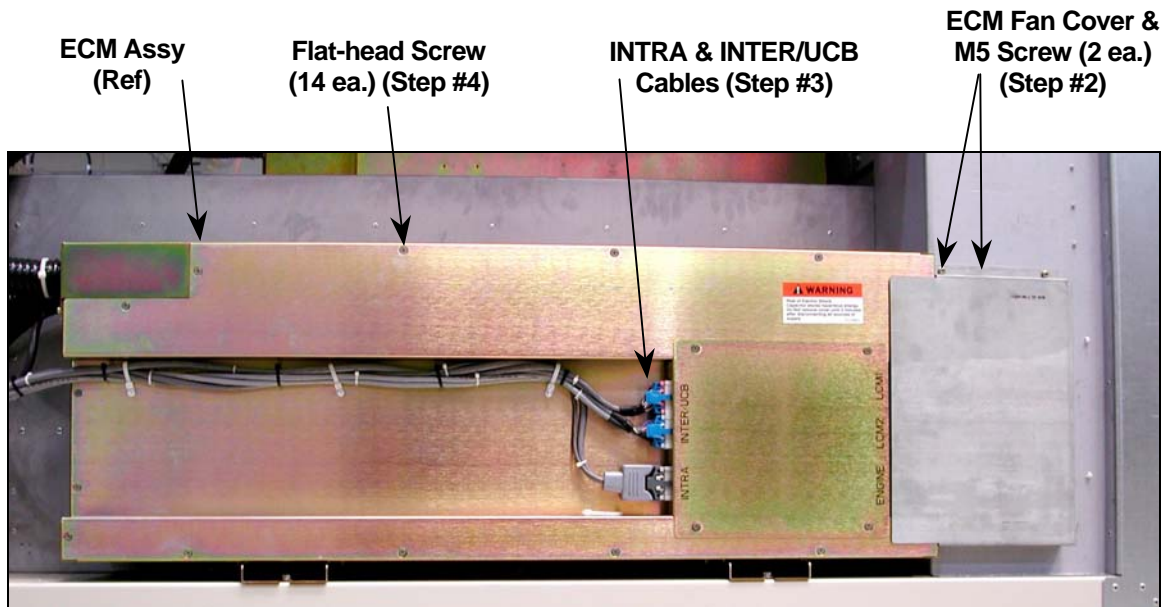
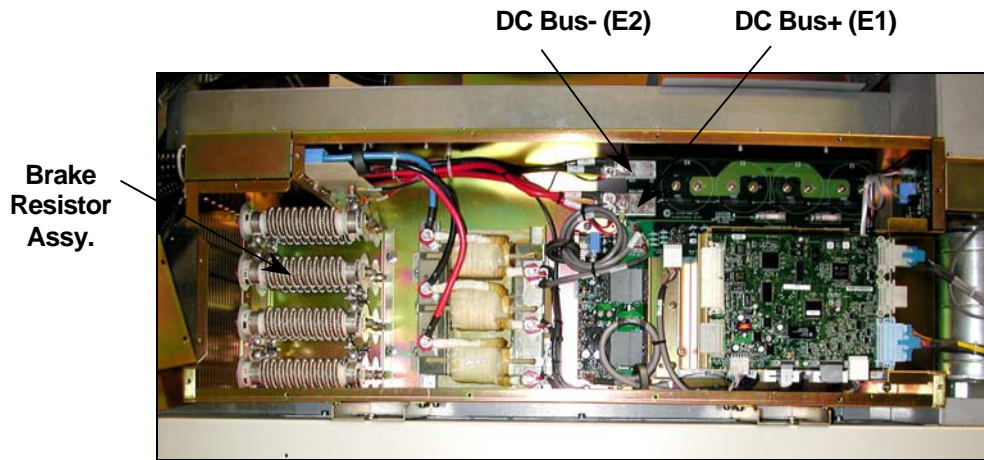

Figure 1. ECM Assembly (Cover On)
Figure 2. ECM Assembly (Cover Off)
2. Remove the ECM fan cover by removing the two M5 screws using a Phillips screwdriver (see Figure 1).
3. Remove the three harness connectors INTRA and INTER/UCB from the left side of ECM Control Board (not visible) (see Figure 1).
4. Remove the 14 flat-head screws on the ECM front cover using a #2 Phillips screwdriver (see Figure 1). Then, gently open the front cover towards the left side of the ECM to expose the Brake Resistor Assembly (see Figure 2).
5. Using a voltmeter, verify there is no voltage at the ECM DC Bus terminals (see Figure 2).